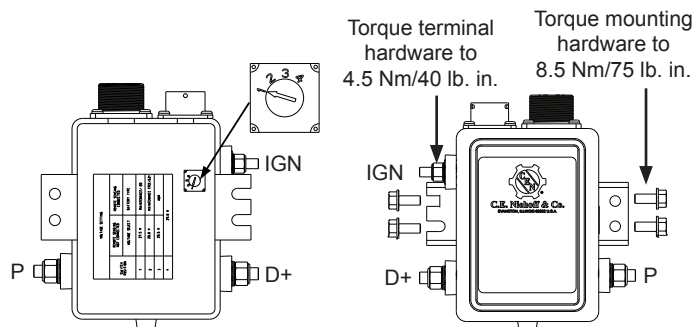

Figure 1: Typical Smart Regulator
- a. Turn regulator over and make sure voltage selection switch setting is appropriate for type of battery used. If necessary, change switch setting. See Table 1 and Figure 1.
Refer to Figure 1 and connect regulator terminals as required by vehicle: